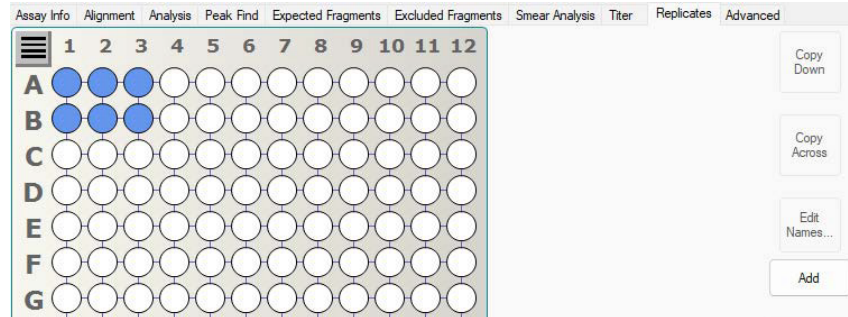

Figure 31. Wells Selected for Replicate Set
- 1 Select the wells that all contain the same sample. Click and drag to select contiguous wells. Shift + click or Shift + click and drag to add additional wells. To select the rows shown in Figure 31 on page 57, click on well A1 and drag to well B6.